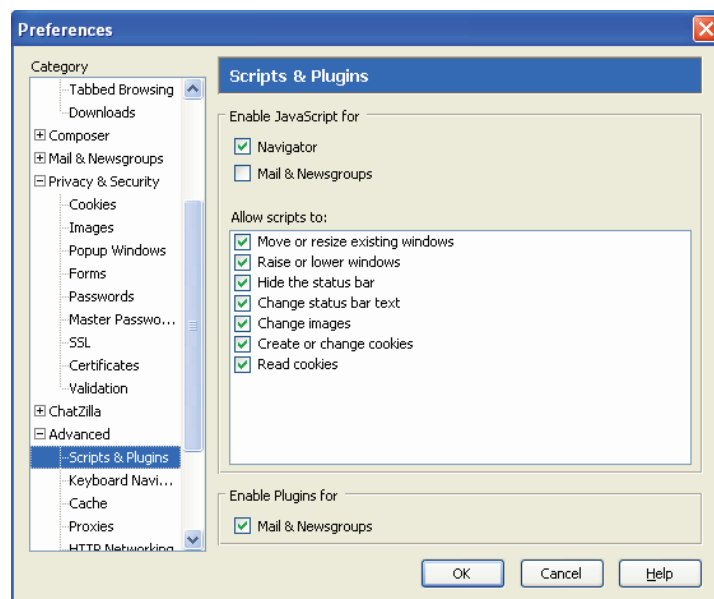

Figure 42. Scripts and Plugins Preferences
4. To enable JavaScript, go to the **Advanced** category and choose **Scripts & Plugins** (see figure 42).